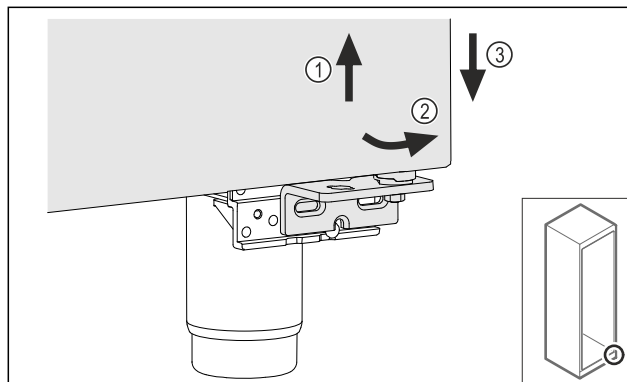

Fig. 20
- Lift the door slightly Fig. 20 (1), tilt it forwards at the bottom Fig. 20 (2) and lower it Fig. 20 (3).